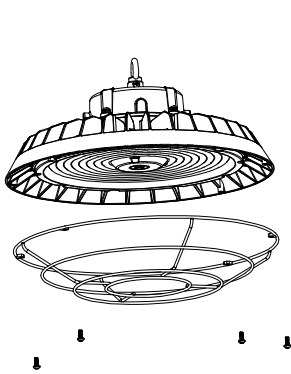
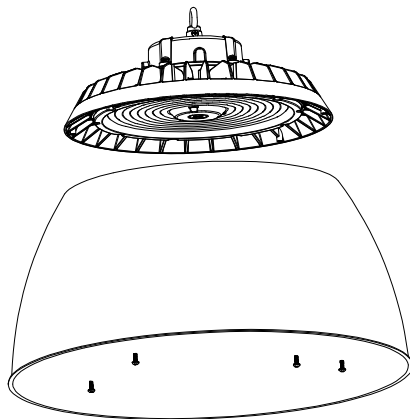
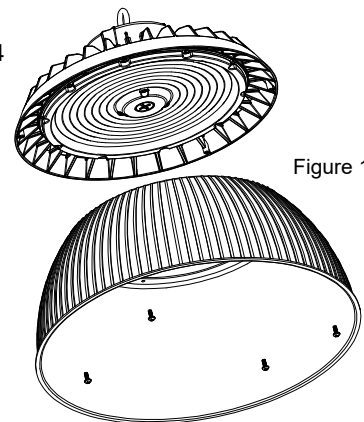
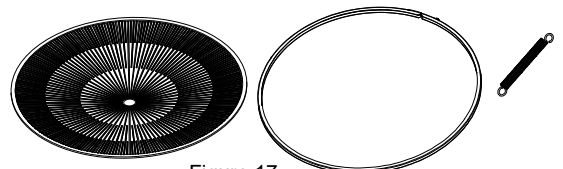

Figure 14
Figure 15
Figure 16
Figure 17
① Remove the screws from the UFO highbay, Install the wire guard / Aluminum Reflector / Polycarbonate Refractor / Polycarbonate Refractor Cover(Figure14 /Figure15/Figure16/Figure17)